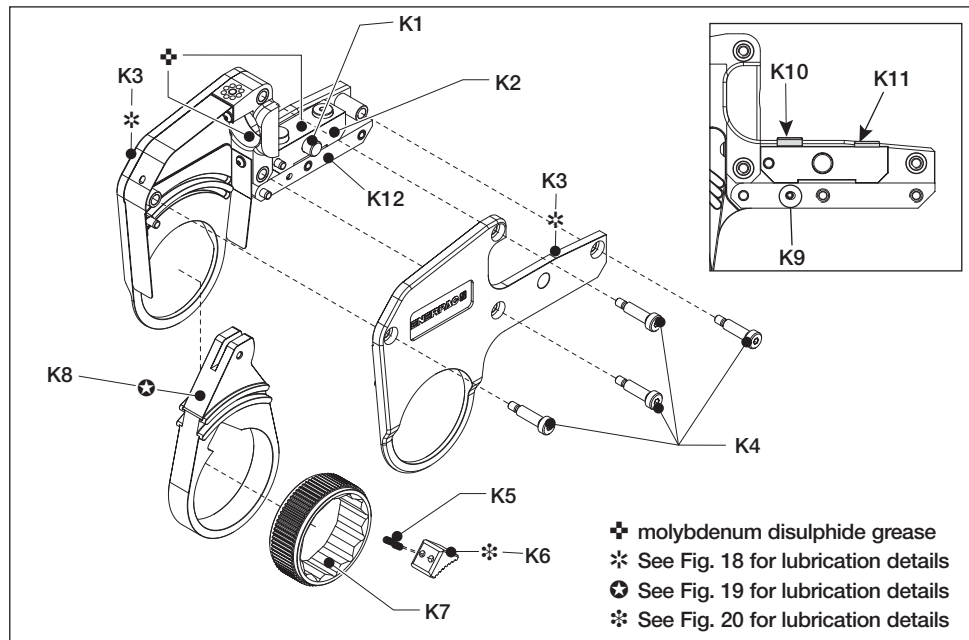

Fig. 16
5.4 Preventative Maintenance - Cassette (Fig. 16, 18, 19 and 20)
- Apply a thin coat of molybdenum disulphide grease to the bore of the cylinder locating plate and to the top of the pin retainer assembly. Refer to Figure 16 for molybdenum disulphide grease locations (✚).
5.5 Full Maintenance - Cassette (Fig. 16, 18, 19 and 20)
- Dry all components. Apply a thin coat of molybdenum disulphide grease (✚) as indicated in figures 16 and 18. Refer to Section 5.4 for additional information about application of molybdenum disulphide grease.